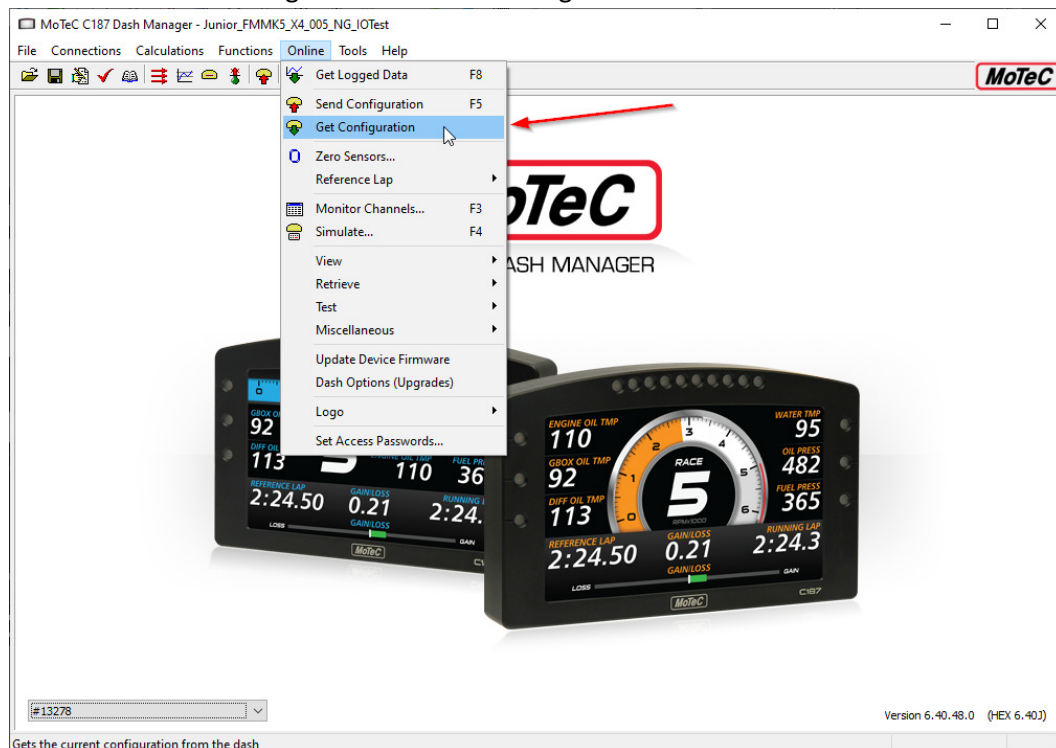

Figure 4.21: MoTeC Dash Manager – retrieving the current configuration.
3. Select Online -> Get Configuration as shown in Figure 4.21.